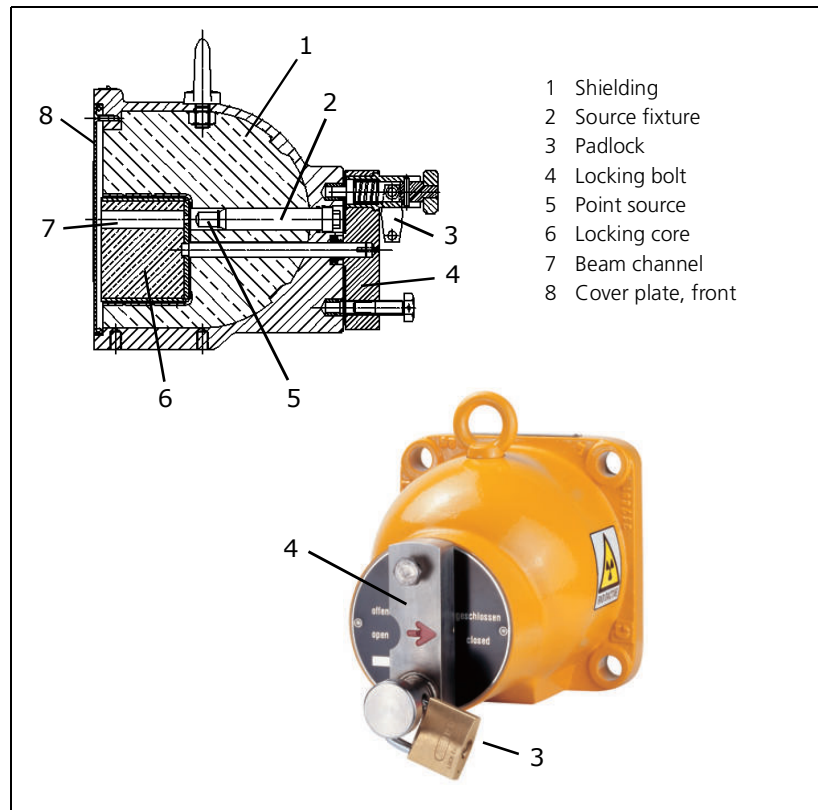

Fig. 2-13 Cross-section drawing and photo of the point source shielding, top: beam channel open, bottom: beam channel closed
The shielding consists of a lead cylinder with source exit channel (7), surrounded by a steel coat (Fig. 2-13). The locking core (6) is firmly connected to a locking lever (4). The positions OPEN and CLOSED are protected against removal of the source by unauthorized persons by the padlock (3).